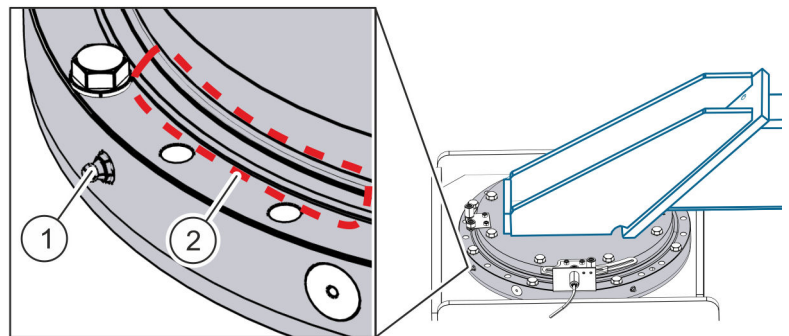

Fig. 24: Lubricating the rotary joint
- ➔ During swivelling, press the grease into one of the grease nipples (Fig. 24/1) until grease emerges from the grease lips (Fig. 24/2).